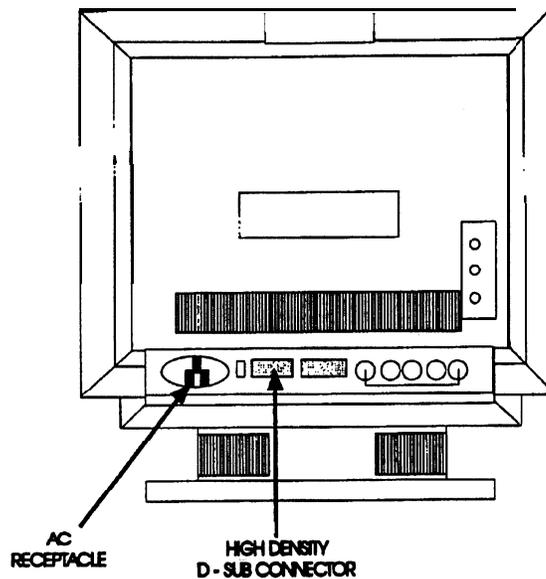

Figure 2-62. CWS, GPS, and GAS 17-inch (MAG) Monitor Rear
- (1) Connect video cable W7 connector W7P2 to the High Density D-sub connector on the monitor rear. (See Figure 2-62 and 2-62a.)
- (2) Connect ac power cable 2W7 connector 2W7P2 to the ac receptacle on the monitor rear.
- (3) Route the cable toward the main gun, down under the turret overhang to the IOS.